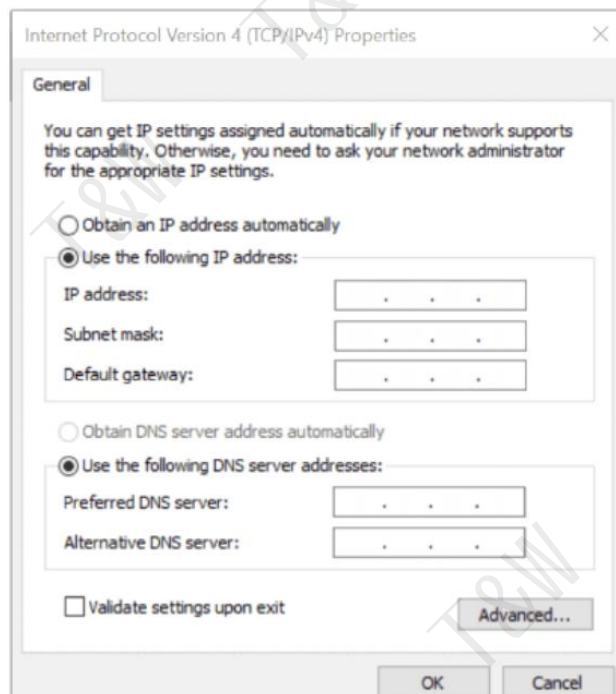

Figure 1-2 Set the client IP address
4. Select " Internet Protocol Version (TCP/IPV4) " , click " Properties " , and the pop-up window is shown in Figure 1-2 .